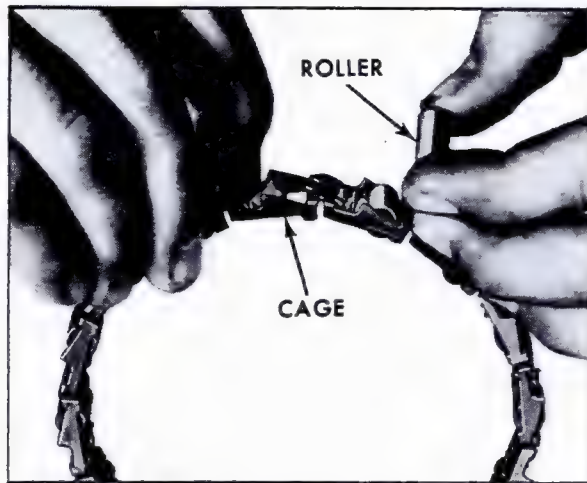

Fig. 7-103 Installing Roller in Roller Clutch Cage
17. Install rollers that may have come out of roller clutch cage, by compressing energizing spring with forefinger and inserting roller from outer side, Fig. 7-103.